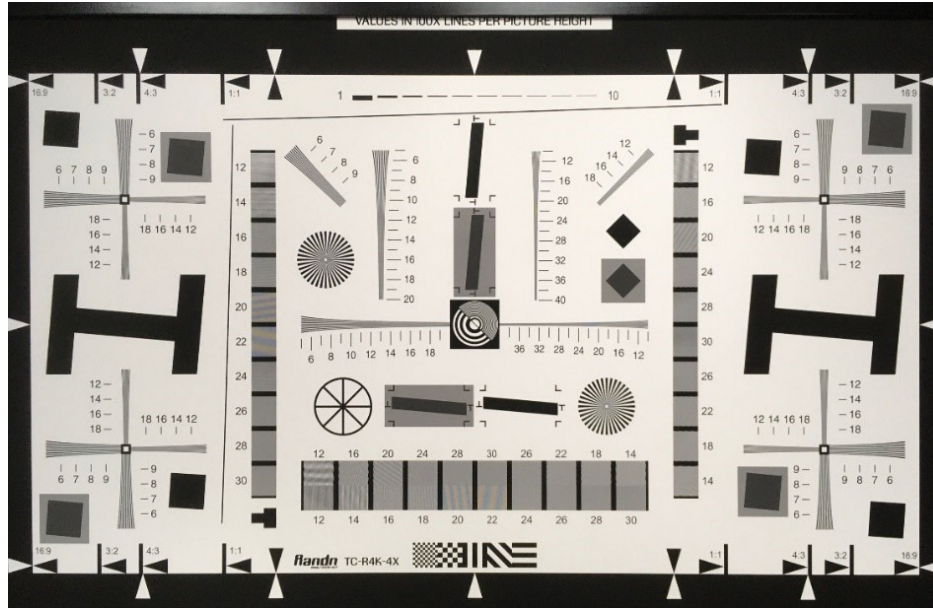

Fig. 4.5: Resolution Card Diagram
Step 1. First, tune the Demosaic parameters for the resolution card using the lab light box under the condition of ambient D50 light source and ISO100 until the objective requirements are met. Next, using this set of Demosaic parameters, we observe whether the lab still scene under ISO100 still meets the requirements, such as whether its high-frequency details can be interpolated, and we iterate back and forth to observe and tune it. Figure 4-5 is a resolution card diagram. Please refer to section 5.8.1 “Demosaic Tuning Method” for specific tuning methods for Demosaic.